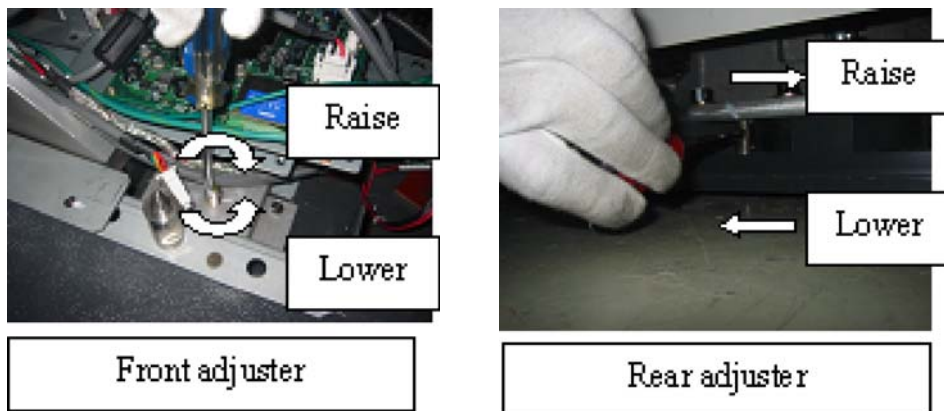

Figure 1-48 Front and Rear Adjuster
- c.) Level of the table influences a center position, The vertical laser alignment light must match and be centered on the white line on the front of the table and in the groove of back alignment plate. See Figure 1-48.